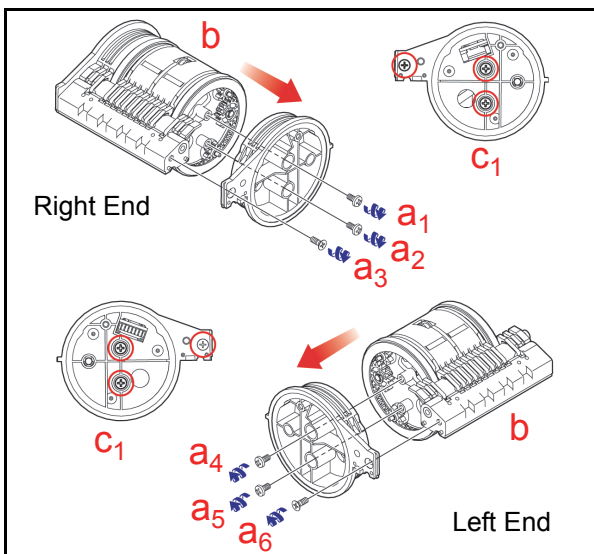

Figure 4-9 Right & Left Transport Drum End Cover Removal
3. Remove the six (6) Transport Drum End Cover Mounting Screws (See Figure 4-9 a₁ through a₆) from the right and left end of the Transport Drum Unit (See Figure 4-9 b).
4. Separate the Center Guide (See Figure 4-9 c₁ & c₆) from the two ends the direction indicated by the Large Arrows in Figure 4-9.